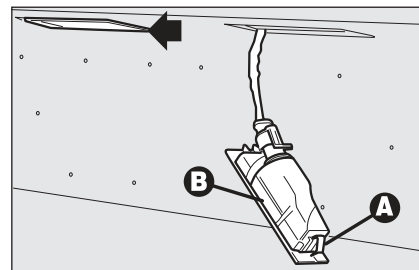

fig. 40
- ☐ operate with a flat blade screwdriver protected by a soft cloth on device **A-fig. 40** to remove the light unit **B**;